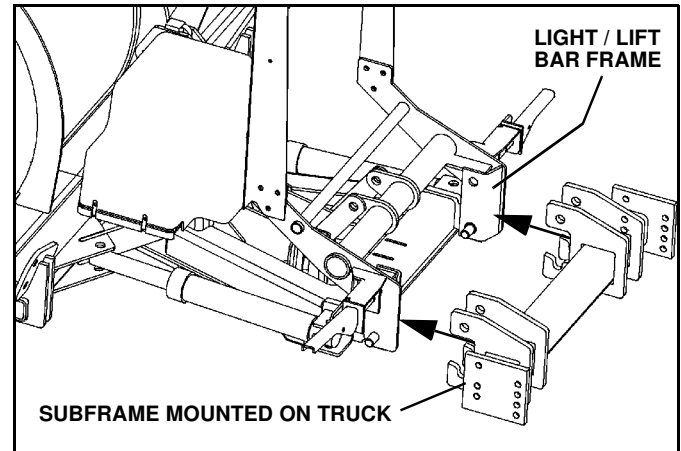

Figure 1-18
1. Drive truck into plow. Align light/lift bar frame inside of subframe lugs. Pins should fit inside slots cut into subframe lugs. (See Figure 1-18)